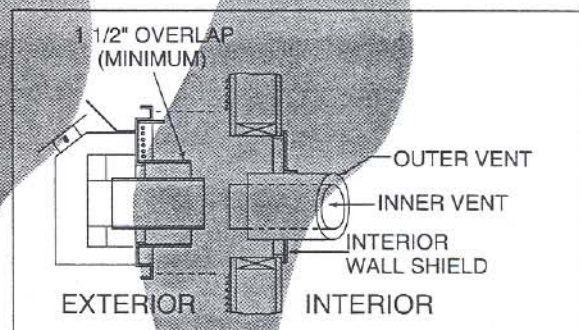

Figure 13
The last section of vent may require cutting, depending upon wall thickness and appliance location. The cap should overlap the vent sections by at least 1 1/2 inches. See Figure 13.
**e. Termination.** Vent termination must not be recessed in the wall. Siding may be brought to the edge of the cap base. Install the cap as shown in *Figure 13*. Cap pipe sections should overlap the vent pipe by 1 1/2 inches. Caulk outside edges of cap.